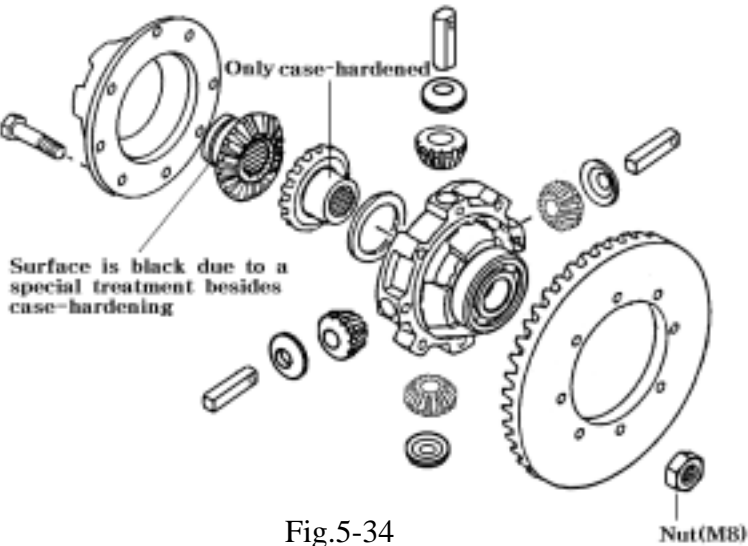

Fig.5-34
- As shown in Fig5-34,there are two kinds of differential side gears.Although are case hardened,the one installed on the side of the diff-lock is treated further and colored black. Take care not to mix them when assembling.